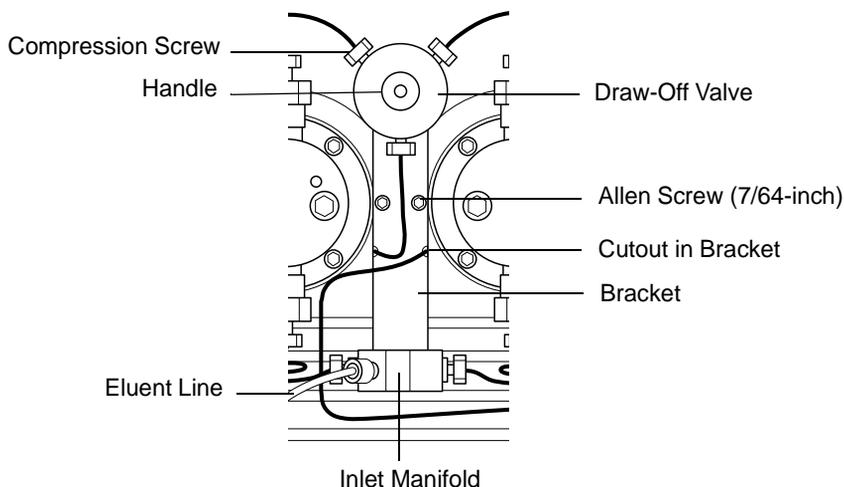

Figure 4-9 Draw-Off Valve/Inlet Manifold Assembly
5. Use the 5/16-inch open-end wrench to disconnect the three stainless steel compression screws from the draw-off valve (see Figure 4-9).
6. Use the 5/16-inch open-end wrench to disconnect the two stainless steel compression screws from the inlet manifold (these screws connect the inlet manifold to the inlet check valves). See Figure 4-9.
1. Attach the new draw-off valve to the bracket using the two Phillips screws. Make sure the new valve is oriented on the bracket as shown in Figure 4-9.